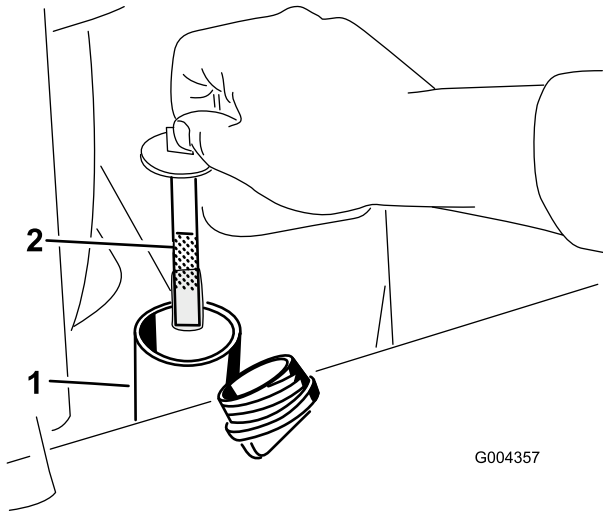

Figure 61
5. Remove the hydraulic-tank cap and dipstick (Figure 61).